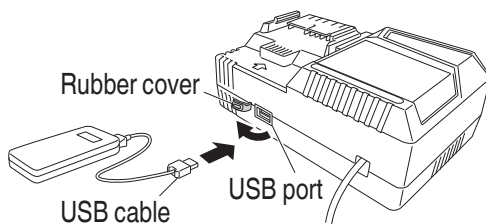

Fig. 18
- (2) Connect the USB cable. (Fig. 18)